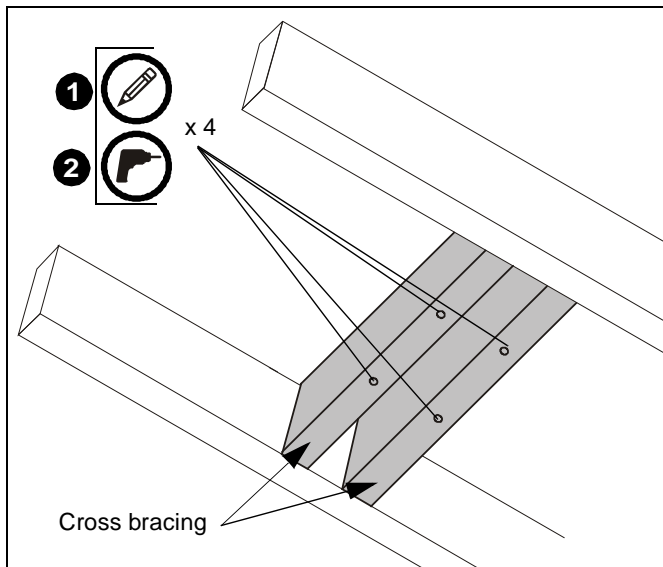

Figure 1
1. Using plate and post assembly (A) as a template, mark locations of four pilot holes (See Figure 1). Ensure the marks are in the center of wood joists.
2. Drill 7/32" diameter pilot holes into wood stud cross bracing. (See Figure 1) Ensure pilot holes are straight.